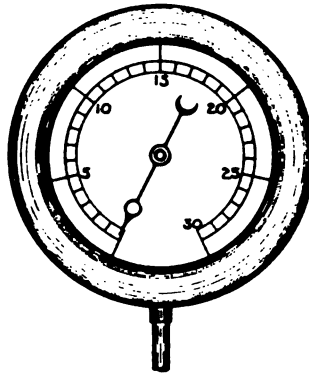

Fig. 8.—Steam Gauge.
A. The steam gauge (Fig. 8) should be located above the boiler and should be connected to it, or to the pipe connection to the water column, by a siphon. Its purpose is to register the pressure in pounds per square inch of the steam within the boiler.